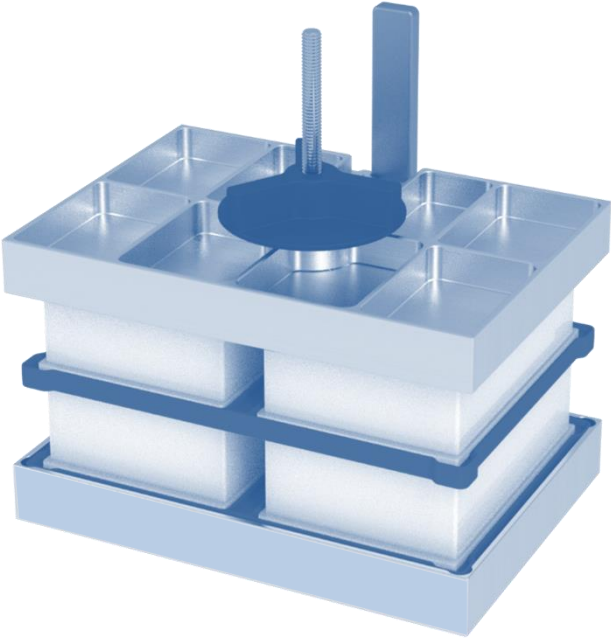

Figure 19 – Closed 2012 Clamp with 4 Titer Plates
8. Secure the clamp lid to the loaded clamp (Figure 19), following Steps 2 – 5 in Section 6.1.1, and run the Geno/Grinder®.